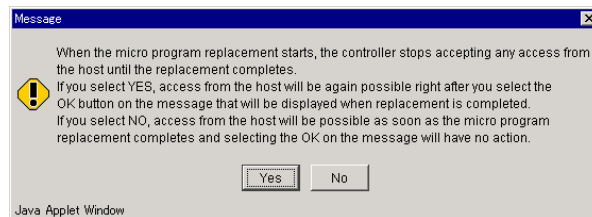

Figure 9.44 Message dialog box
10. Select the access receptionist opportunity from the host after microprogram replaced. See Figure 9.44.